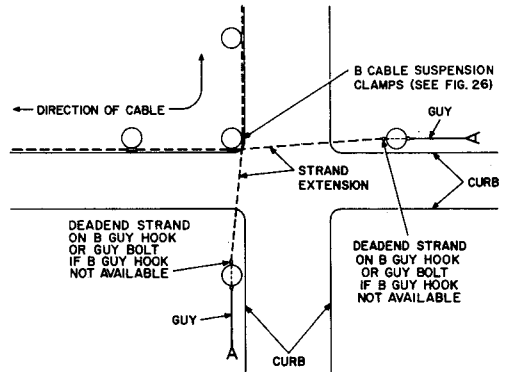

Fig. 28—Extending Guys
6.09 At corners where supporting guys would have to cross streets or highways, extend the strand through in both directions as illustrated in Fig. 28.
6.10 At corners where a dead-end attachment cannot be made due to an electric supply vertical lead on the pole or other obstructions, strand from one or both directions may be extended through to obtain the necessary clearances as illustrated in Fig. 28.